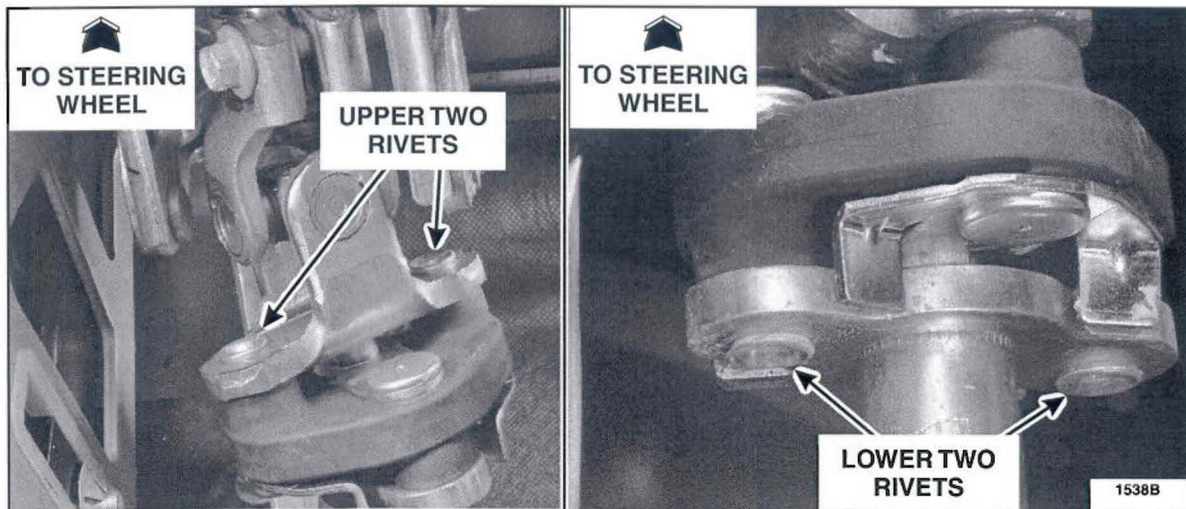

FIGURE 1
2. Locate the staked end of the two (2) upper and two (2) lower rivets in the upper intermediate steering shaft. See Figure 1.